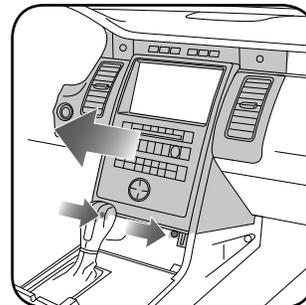

Fig. 1.5
5. Remove (2) 7mm screws at the bottom of the radio bezel. Unclip and remove the radio bezel. If equipped, unclip the thermistor attached to the radio bezel and move it to the side. (Fig. 1.5)